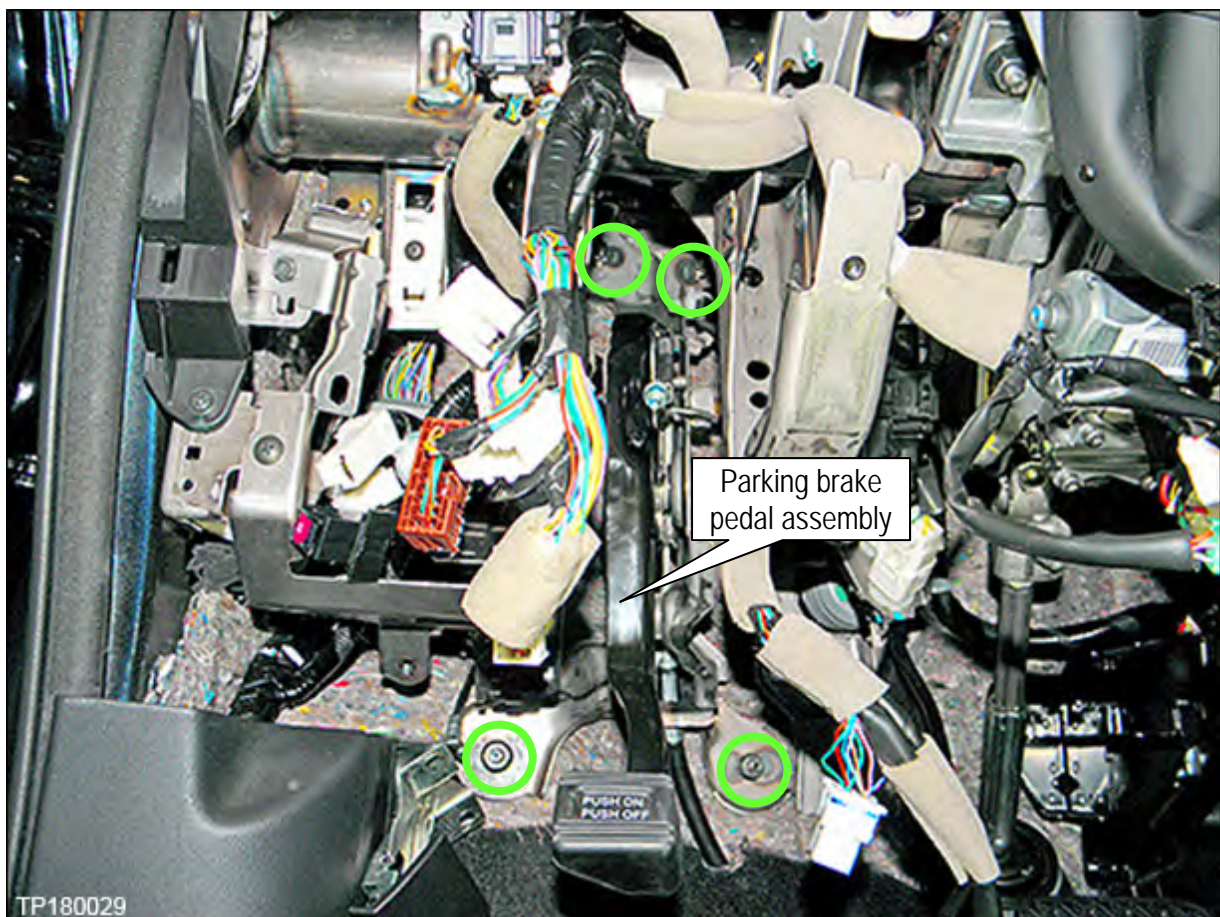

Figure 3
- Remove four (4) bolts shown in Figure 3.